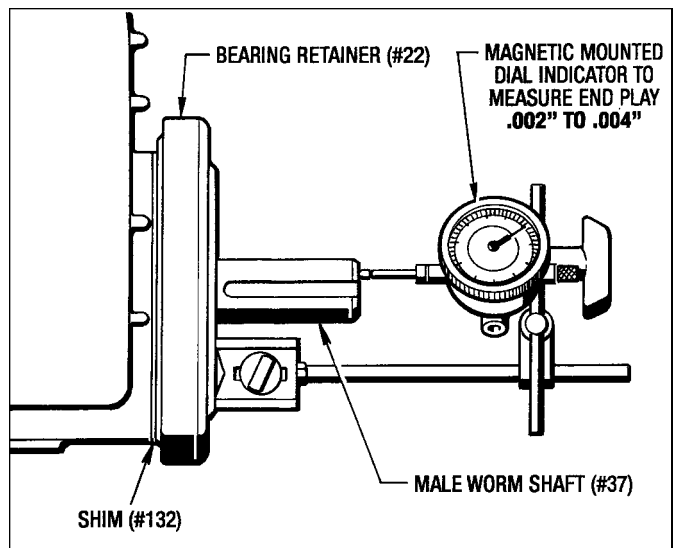

Figure 7.11 - Checking Worm Shaft End Play
11. Install the Shims (#132) and the Bearing Retainer (#22) with the (4) Lockwashers (#174) and (4) Screws (#145) back on the drive side. **Do not torque screws at this time**
13. Install the Shims (#132) and attach the Adapter (#901) with (4) Screws (#150) to the brake side of the Main Housing. **Do not torque at this time.**
14. The **End Play** of the Worm Shaft must be checked before going any further. This can be done by setting a Dial Indicator on the end of the Worm Shaft and manually pushing the shaft in and out while rotating it. The **End Play should be between .002" and .004"**. Add or subtract Shims (#132) as necessary. (See Figure 7.11.)